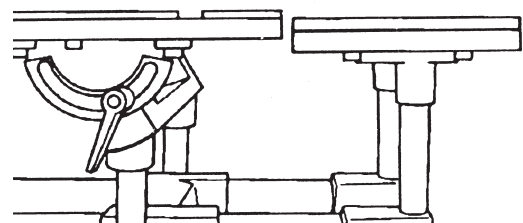

Figure 89
3. The Worktable should already be mounted in the Carriage Mount. Move the Worktable next to the Extension Table and adjust it to about 1/4" above the Extension Table, as seen in Figure 89.